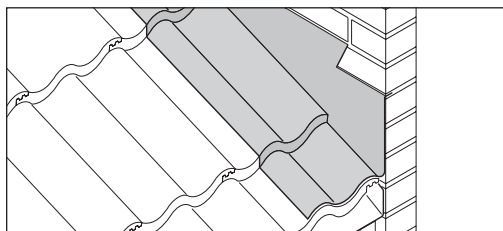

Fig 65 – Stepped flashing with profiled interlocking tiles
- Dress cover flashing as tightly as possible to tile profile (Figs 65 and 66).